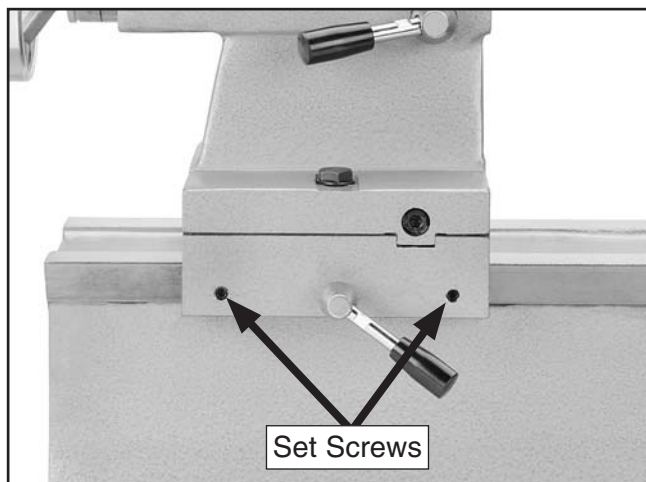

Figure 104. Tailstock gib adjustment set screws.
1. Make adjustments in small and equal increments to the set screws shown in **Figure 104**, then test the movement of the tailstock along the bedway.